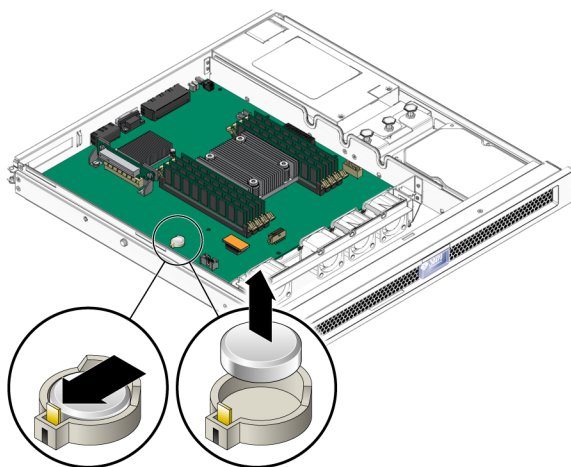

FIGURE 3-12 Removing the Clock Battery from the Motherboard
2. Using a small flat head screwdriver, carefully pry the battery (FIGURE 3-12) from the motherboard.